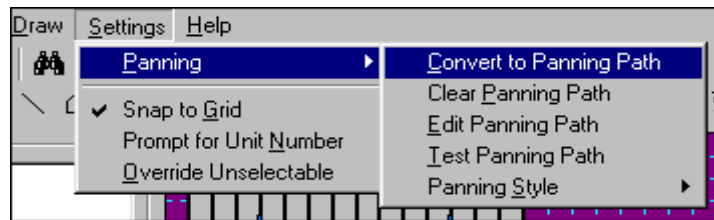

Figure 39
7. Once the path is completed, release the 'Shift' key, then select 'Settings>Panning>Convert to Panning Path' (Figure 39).